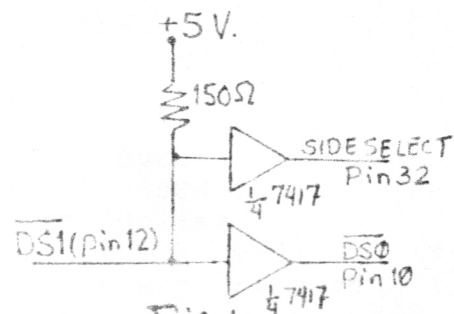

Fig. 1
- 3) On Page 13 of this issue of LIST John Bell has a circuit for running double-sided disk drives with the Zebra Disk Controller. As can be seen he uses 74LS08 which has a totem pole output stage. If you are in the habit of connecting and disconnecting your cables every ten minutes like me, you can at least burn the chip by installing the cable upside down. The remedy is to use open collector sourced logic with proper pull up resistors. An example is the circuit shown in Fig.1(from a British source)which makes the second side of a double sided disk drive appear as though it was an independent/second drive.